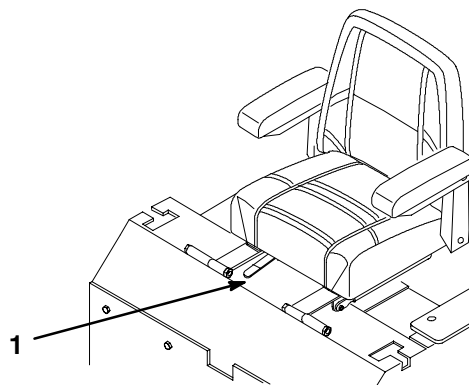

Figure 30
1. To adjust, move the lever sideways to unlock seat (Fig. 30).